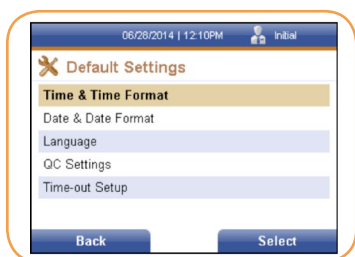

FIGURE 11
5. Press the right soft key to Accept the changes to the time and time format, or press the left soft key to Discard the changes. Either selection returns the user to the previous screen (Figure 11).